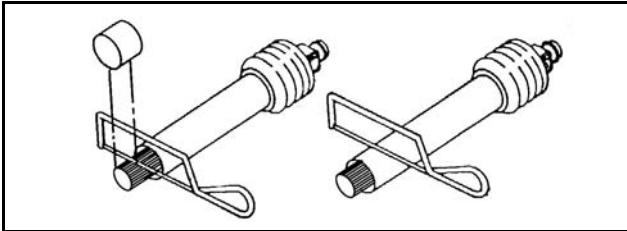

Figure 4. Cutting the Driveline Shaft
- Use an abrasive wheel power saw to cut the male end of the shaft. Cut the same amount from both the splined shaft and the safety shield. See Figure 4.